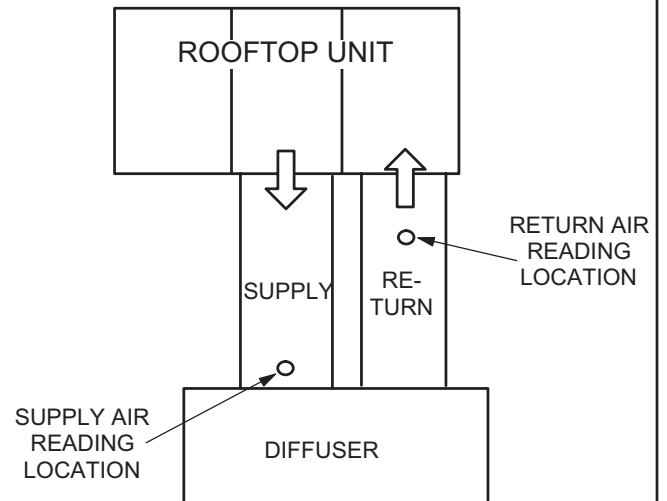

FIGURE 31
- 2 - With all access panels in place, measure static pressure external to unit (from supply to return). Blower performance data is based on static pressure taken in locations shown in FIGURE 31.